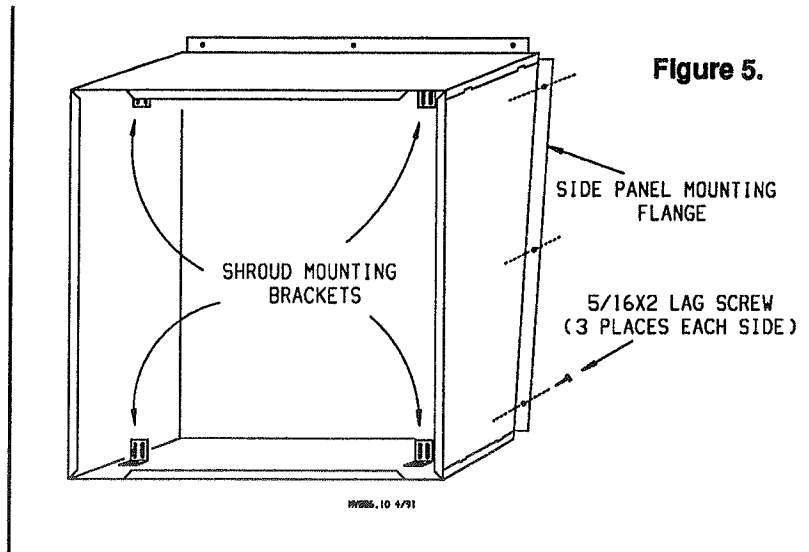

Figure 5.
6. Install the four (4) shroud mounting brackets to the top and bottom panels of the slant housing as indicated in Figure 5. Use the eight (8) 5/16-18 x 5/8 bolts, flat washers, and nuts provided. Do not fasten securely.
- ☆ 8. Secure side panel flanges to 2" x 6" wood framing with six (6) 5/16 x 2 lag screws provided. See Figure 5.